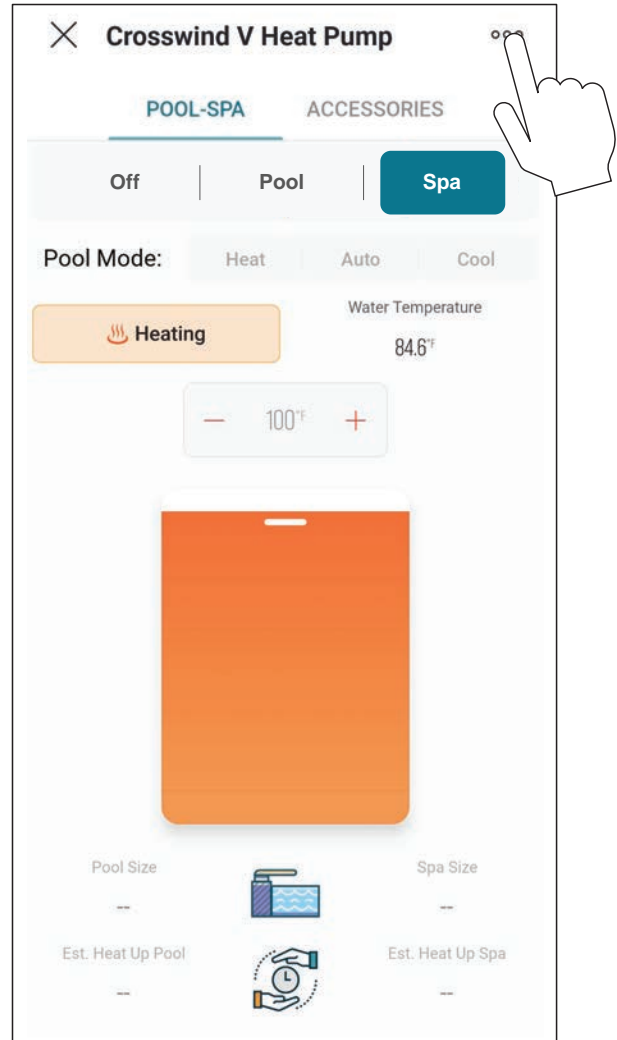

Figure 93. Open Unit Settings
2. Press the 3-dots button on top-right corner to open unit settings. See Figure 93.